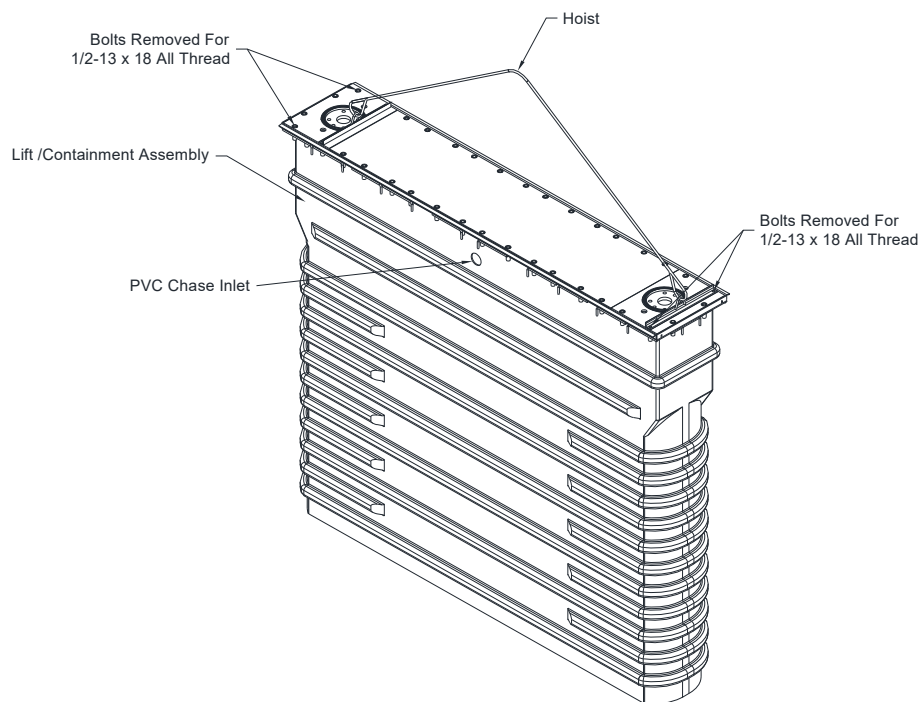

Fig. 3
1. For best balance of lift / containment assembly while lowering into excavation, sling using the shipping straps provided. See Figure 3. DO NOT remove or loosen any of the bearing assembly bolts at this time.
Figures 3 and 4.